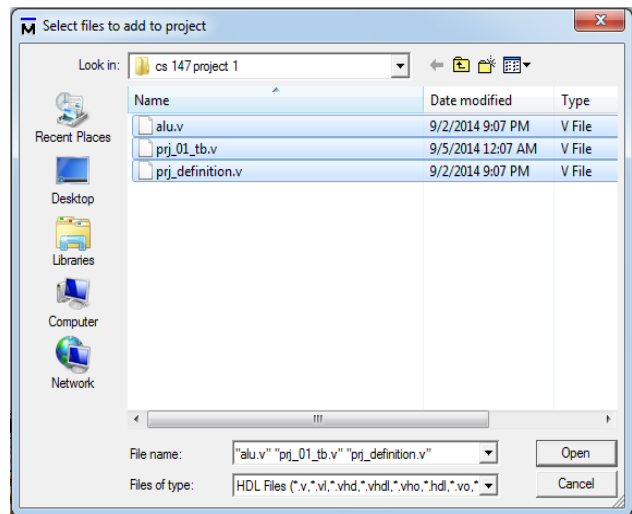

Figure 4.4 Select files to add to project window
- After that another window will appear named 'select files to project' as figure 4.4 and select those three Verilog files that are attached with this project report and click 'Open' button.